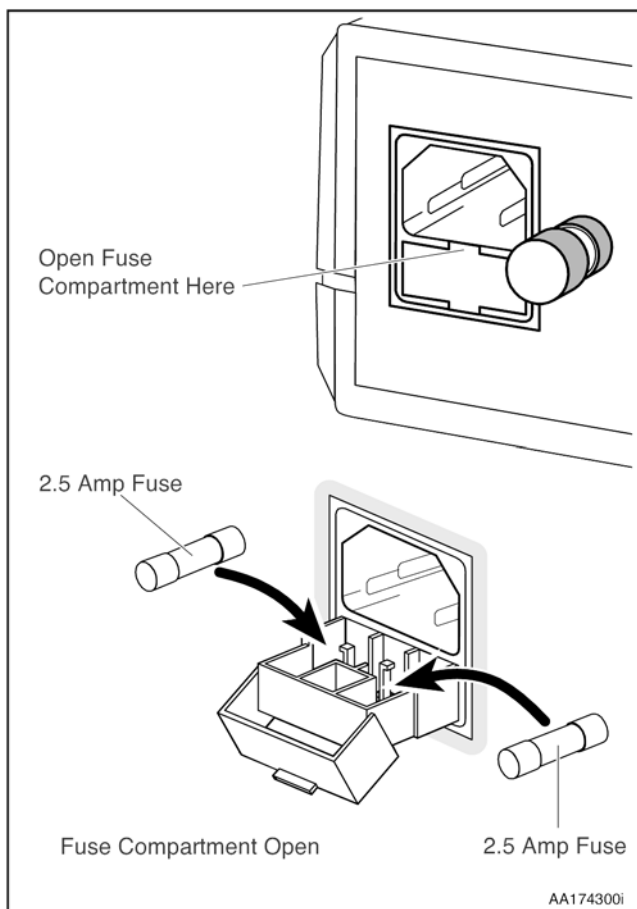

Figure 26. International Fuse Replacement.
2. Open the fuse compartment, as shown in Figure 26.